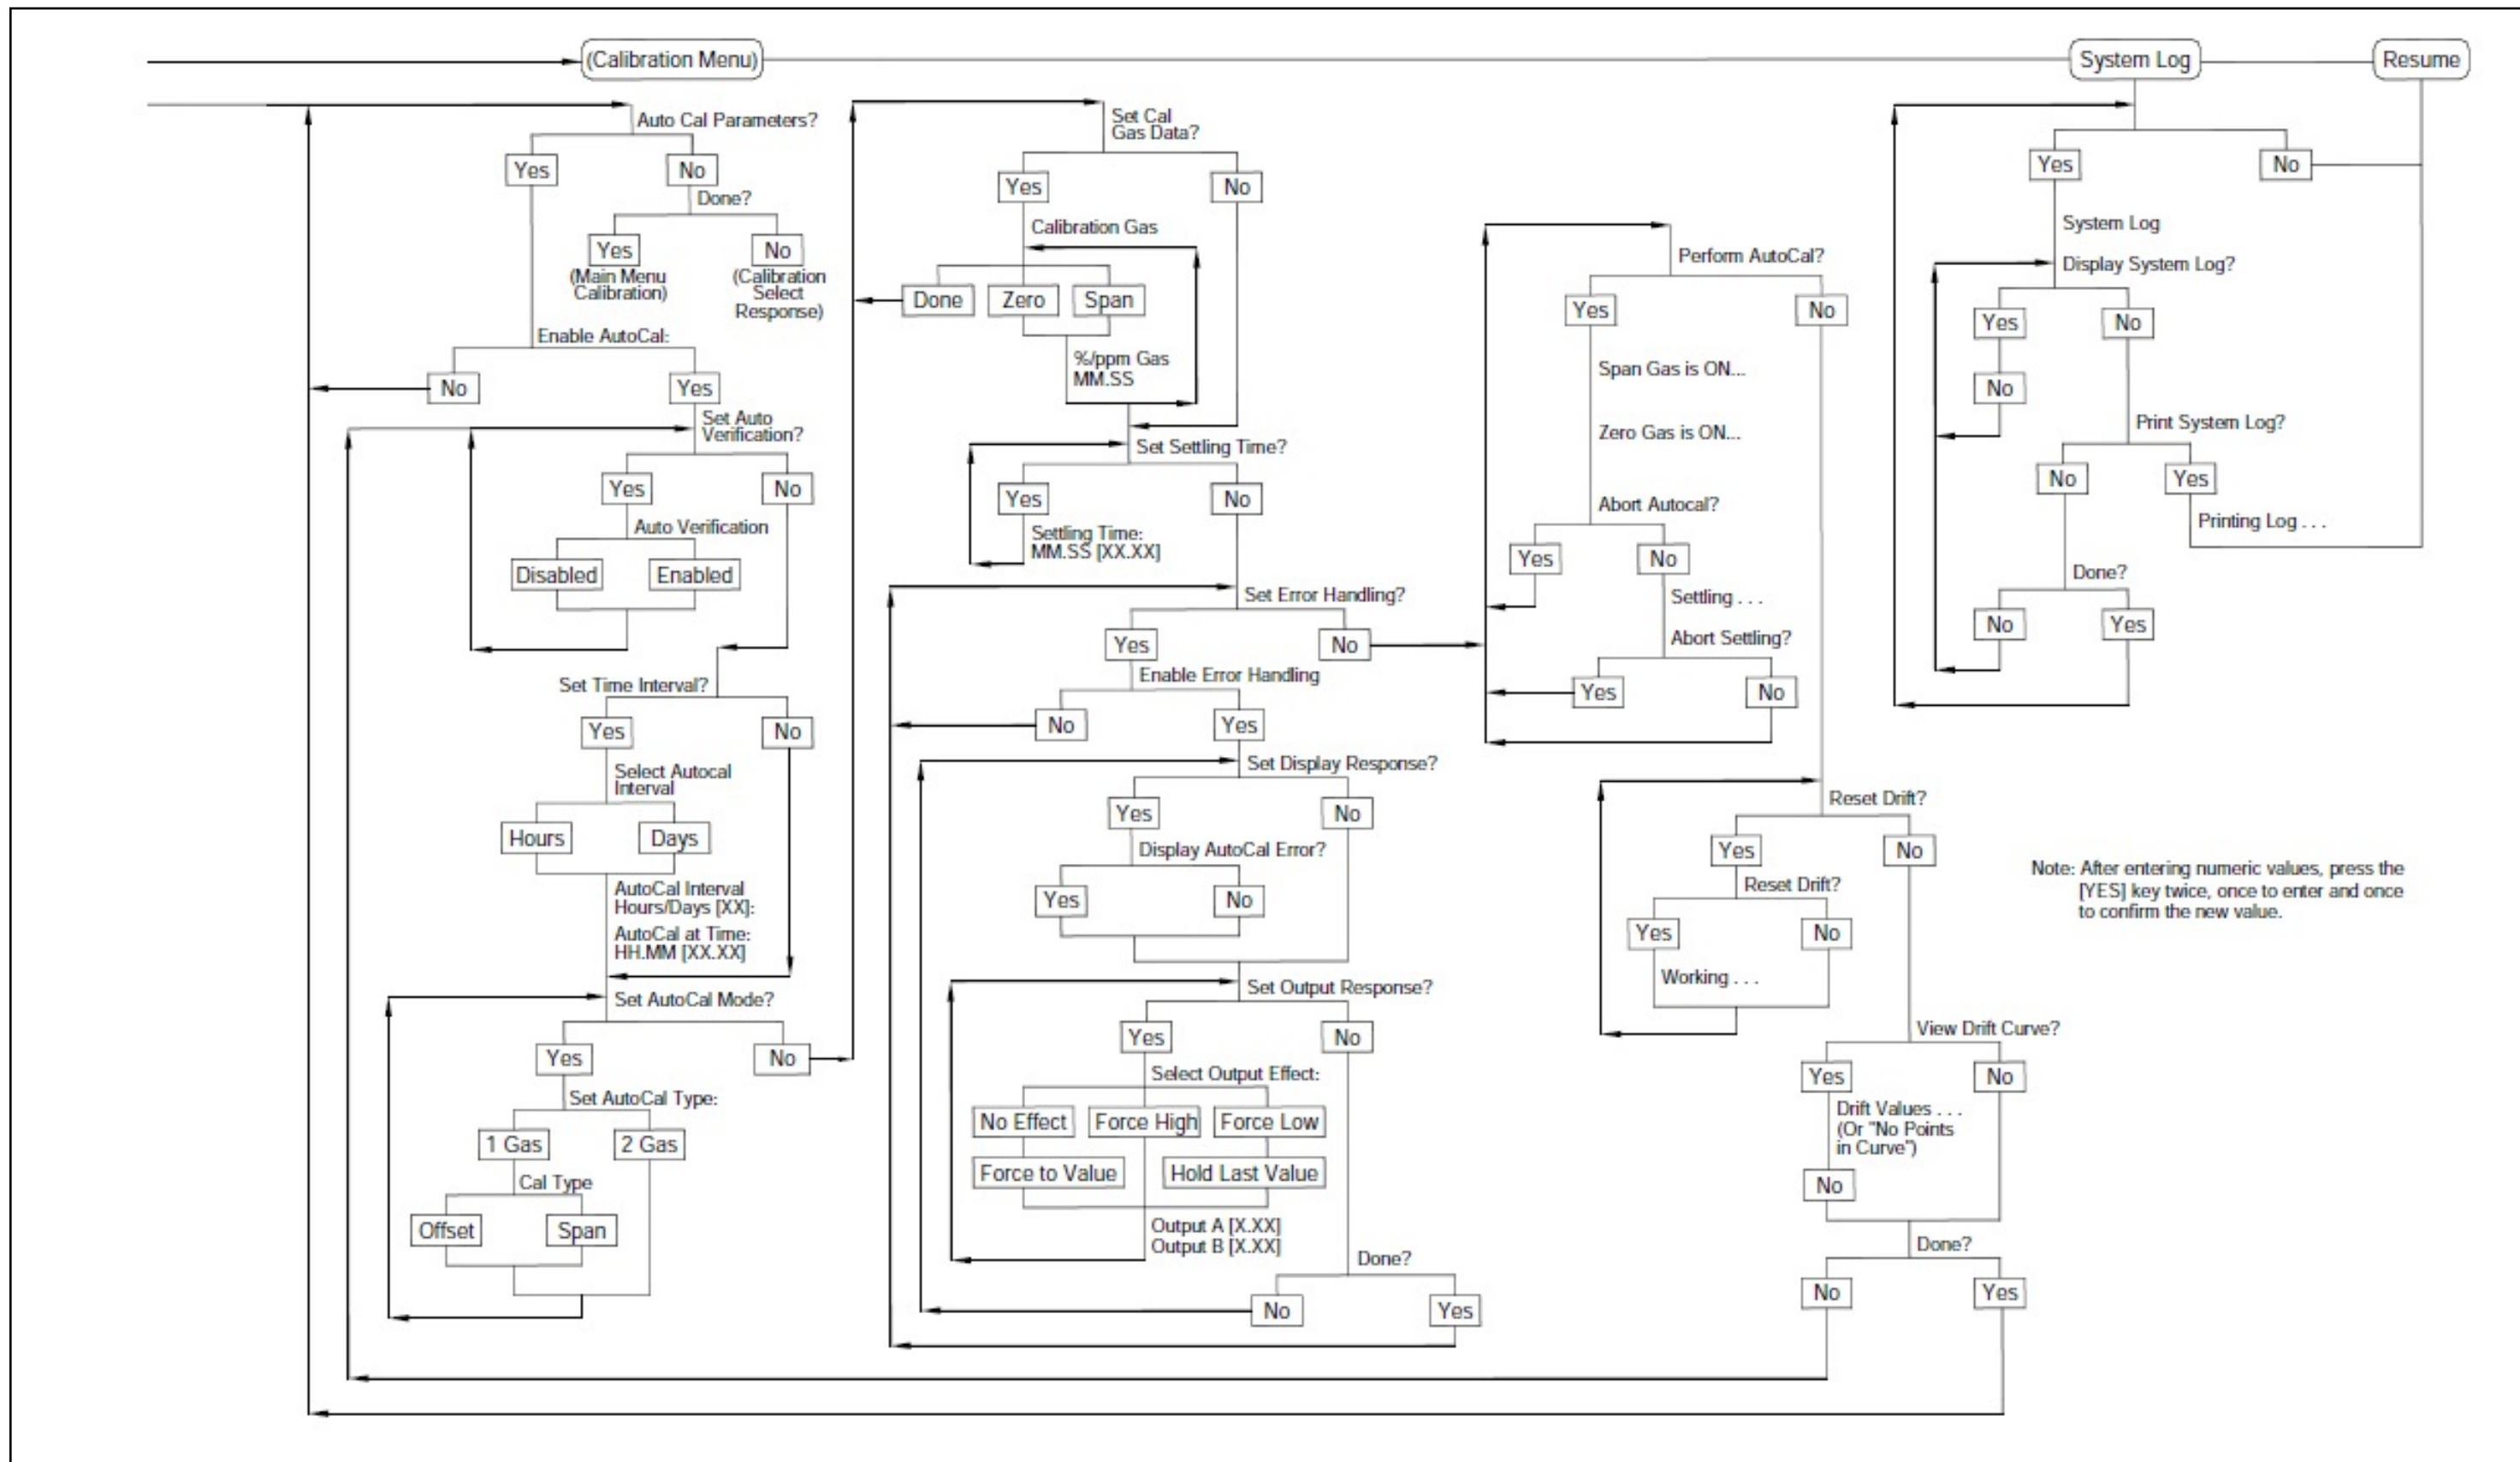

Figure 29: Main Menu: Calibration (Auto Cal Param.), System Log, & Resume
- Figure 29: Main Menu: Calibration (AutoCal Param.), System Log & Resume